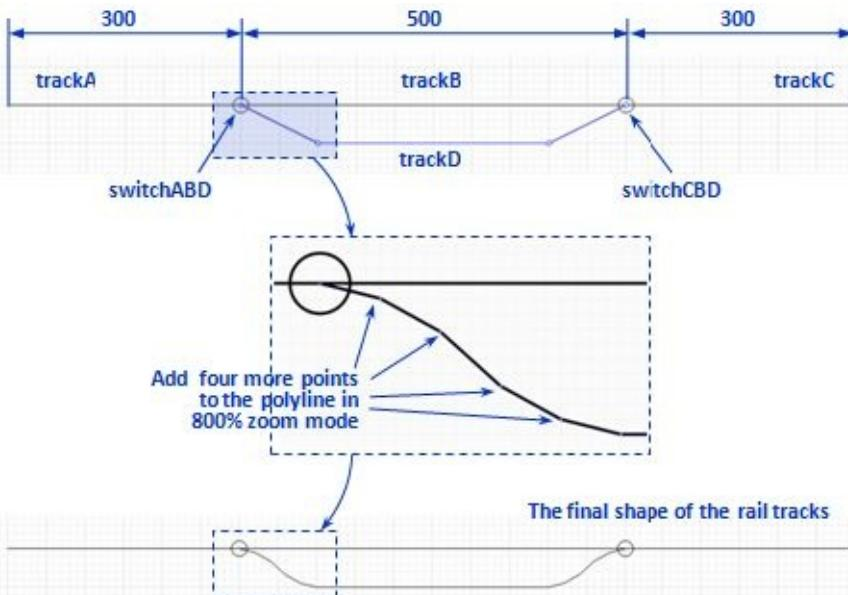

Figure 9.3 Drawing a very simple rail yard
7. Draw the fourth polyline starting from the center of *switchABD* and ending at the center of *switchCBD*. Let this polyline initially have three segments as shown at the top of Figure 9.3. Call it *trackD*.
10. Double-click *trackD* to add a point and adjust the point position. Add four points as shown in the middle of Figure 9.3.